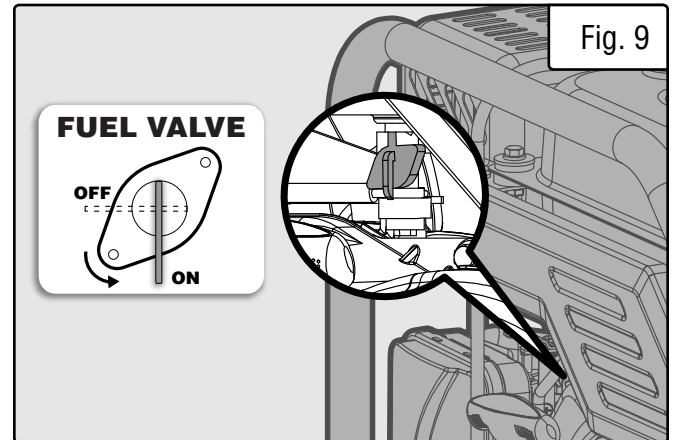

Fig. 9
1. Turn the fuel valve to the ON position (Fig. 9).